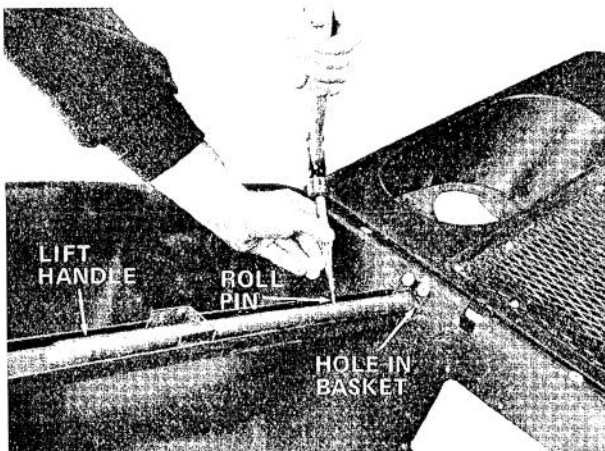

Figure 4
2. Open grass basket and slide dump handle through hole in basket and handle guide (Fig.4). Next, tap roll pin through hole in handle (Fig. 4).